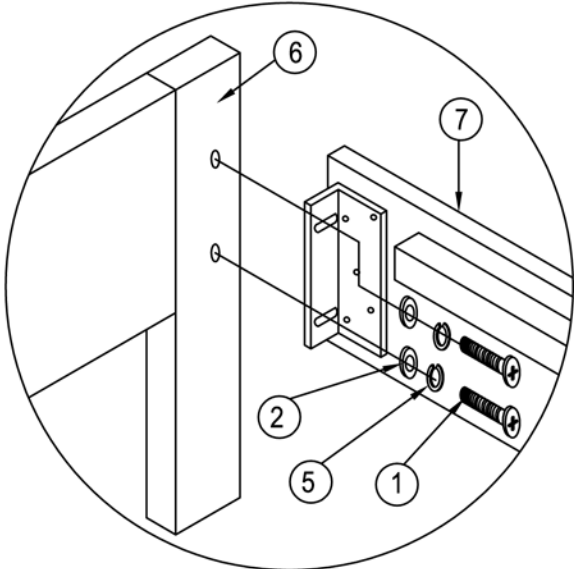
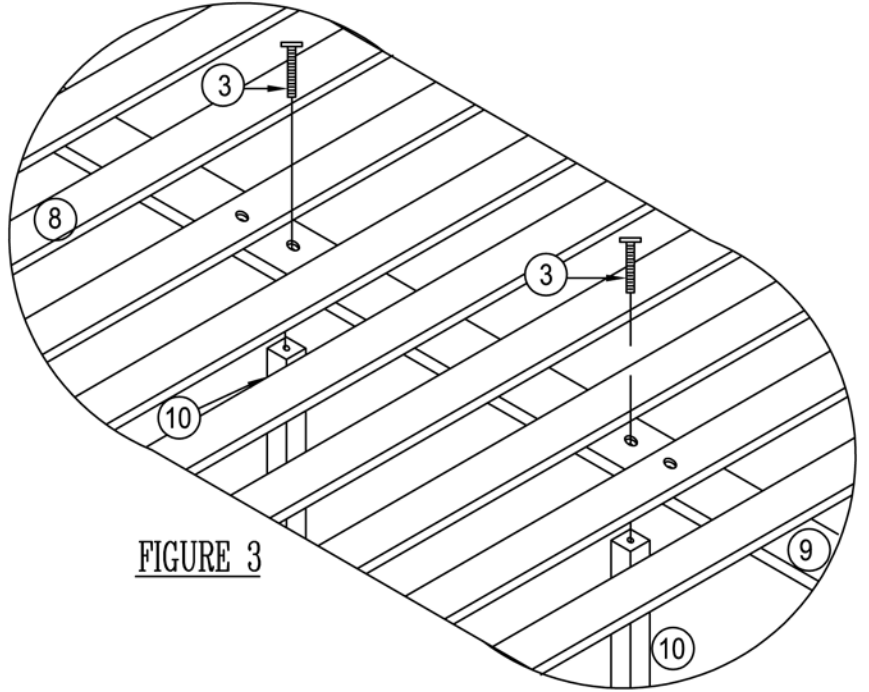
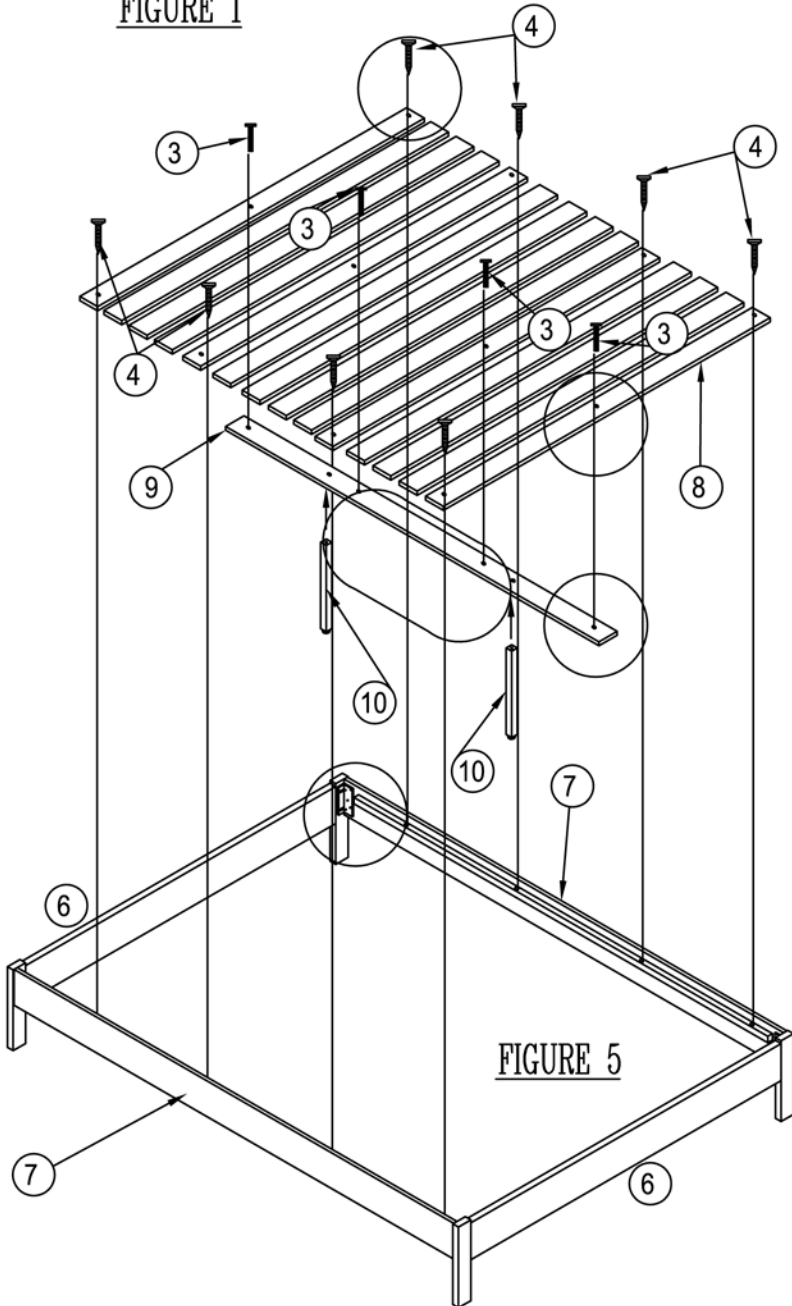

FIGURE 1
FIGURE 3
FIGURE 5
- Place panel (6) and side rails (7) in desire location in the room.
- Secure side rails to headboard posts with screw (1) and washers (2 & 5). (See Figure 1)
- Do the same for the other panel (6) attachment.
- Place slat system (8) between side rails (7). (See Figure 5)
- Secure center rail (9) to center holes in slat system (8). (See Figure 5 & 2)
- Use screws (3) to secure each location. Tighten all screws
- Secure support legs (10) to center rail (9) with screws (3). (See Figure 3 & 5) Tighten all screws